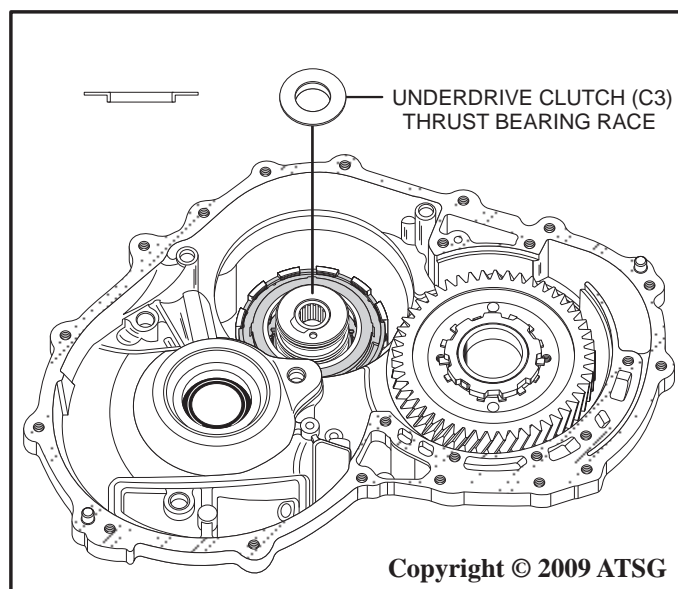

Figure 195
99. Coat the underdrive clutch (C3) thrust bearing race with a small amount of Trans-Jel® and install it onto the ring tower in the case as shown in Figure 195.